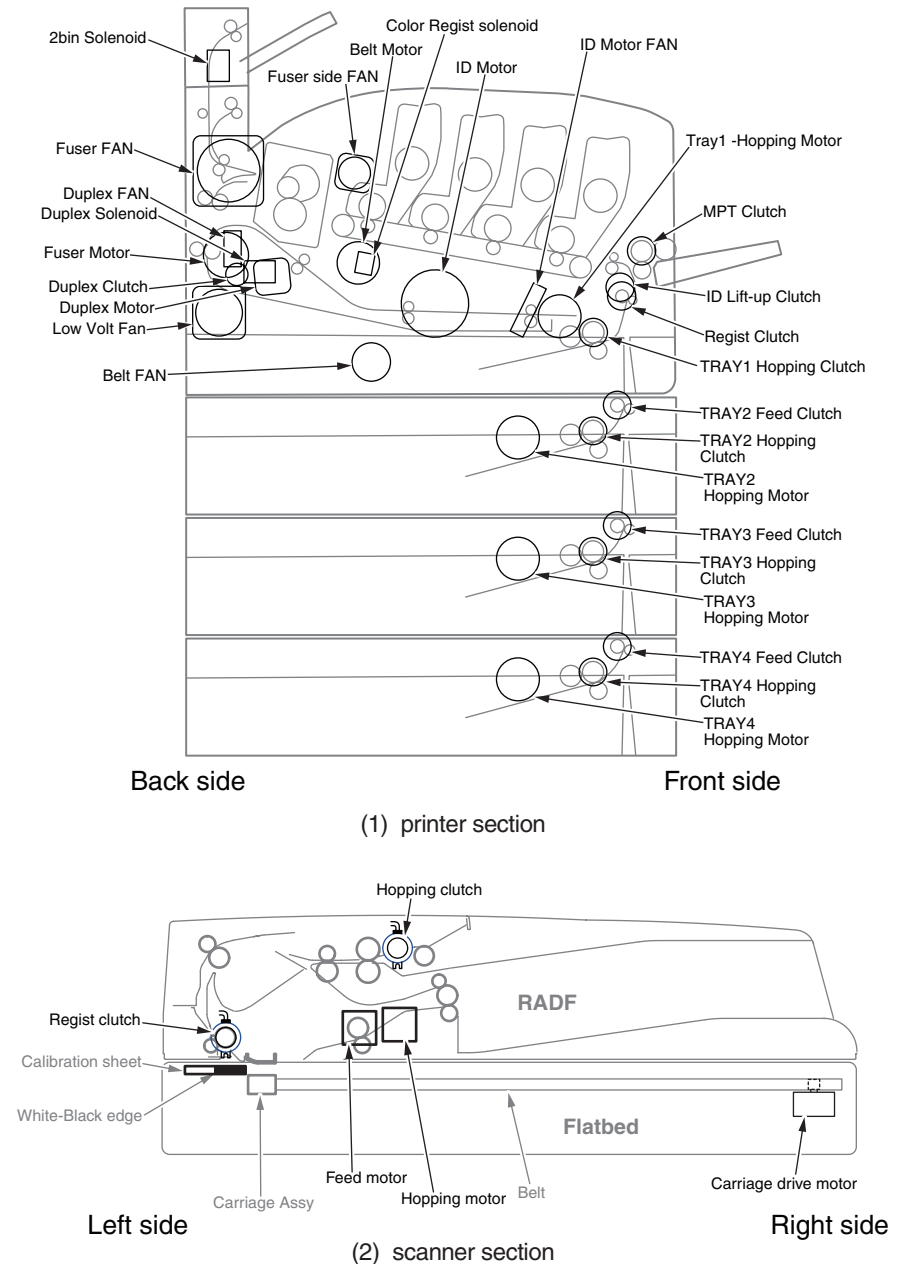

Figure 3-2
3. Press the [6] button. The motor and clutch test starts, the unit's the name and current status starting to blink, and the unit being driven for ten seconds (refer to figure 3-2).